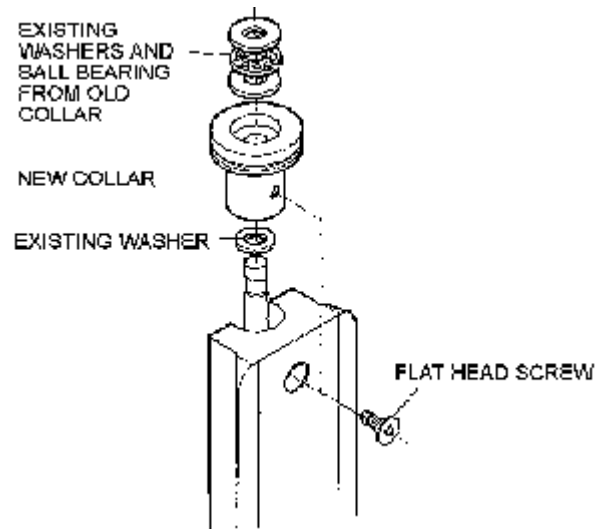

FIGURE 6-Order of washers and bearing in Z-axis thrust collar.
- Using a 1/8" hex wrench, remove the flat head screw that holds the Z-axis thrust collar to the column. Remove the collar by lifting it up and off the Z-axis leadscrew. If the spacer washer sticks to the bottom of it, remove it and reinstall it on the leadscrew shaft. Then remove the ball bearing thrust and two washers from the collar and reinstall them in the new Z-axis thrust collar in the same order. (See Figure 6 below.) Install the new collar on the leadscrew shaft and secure it to the bed with the flat head screw.